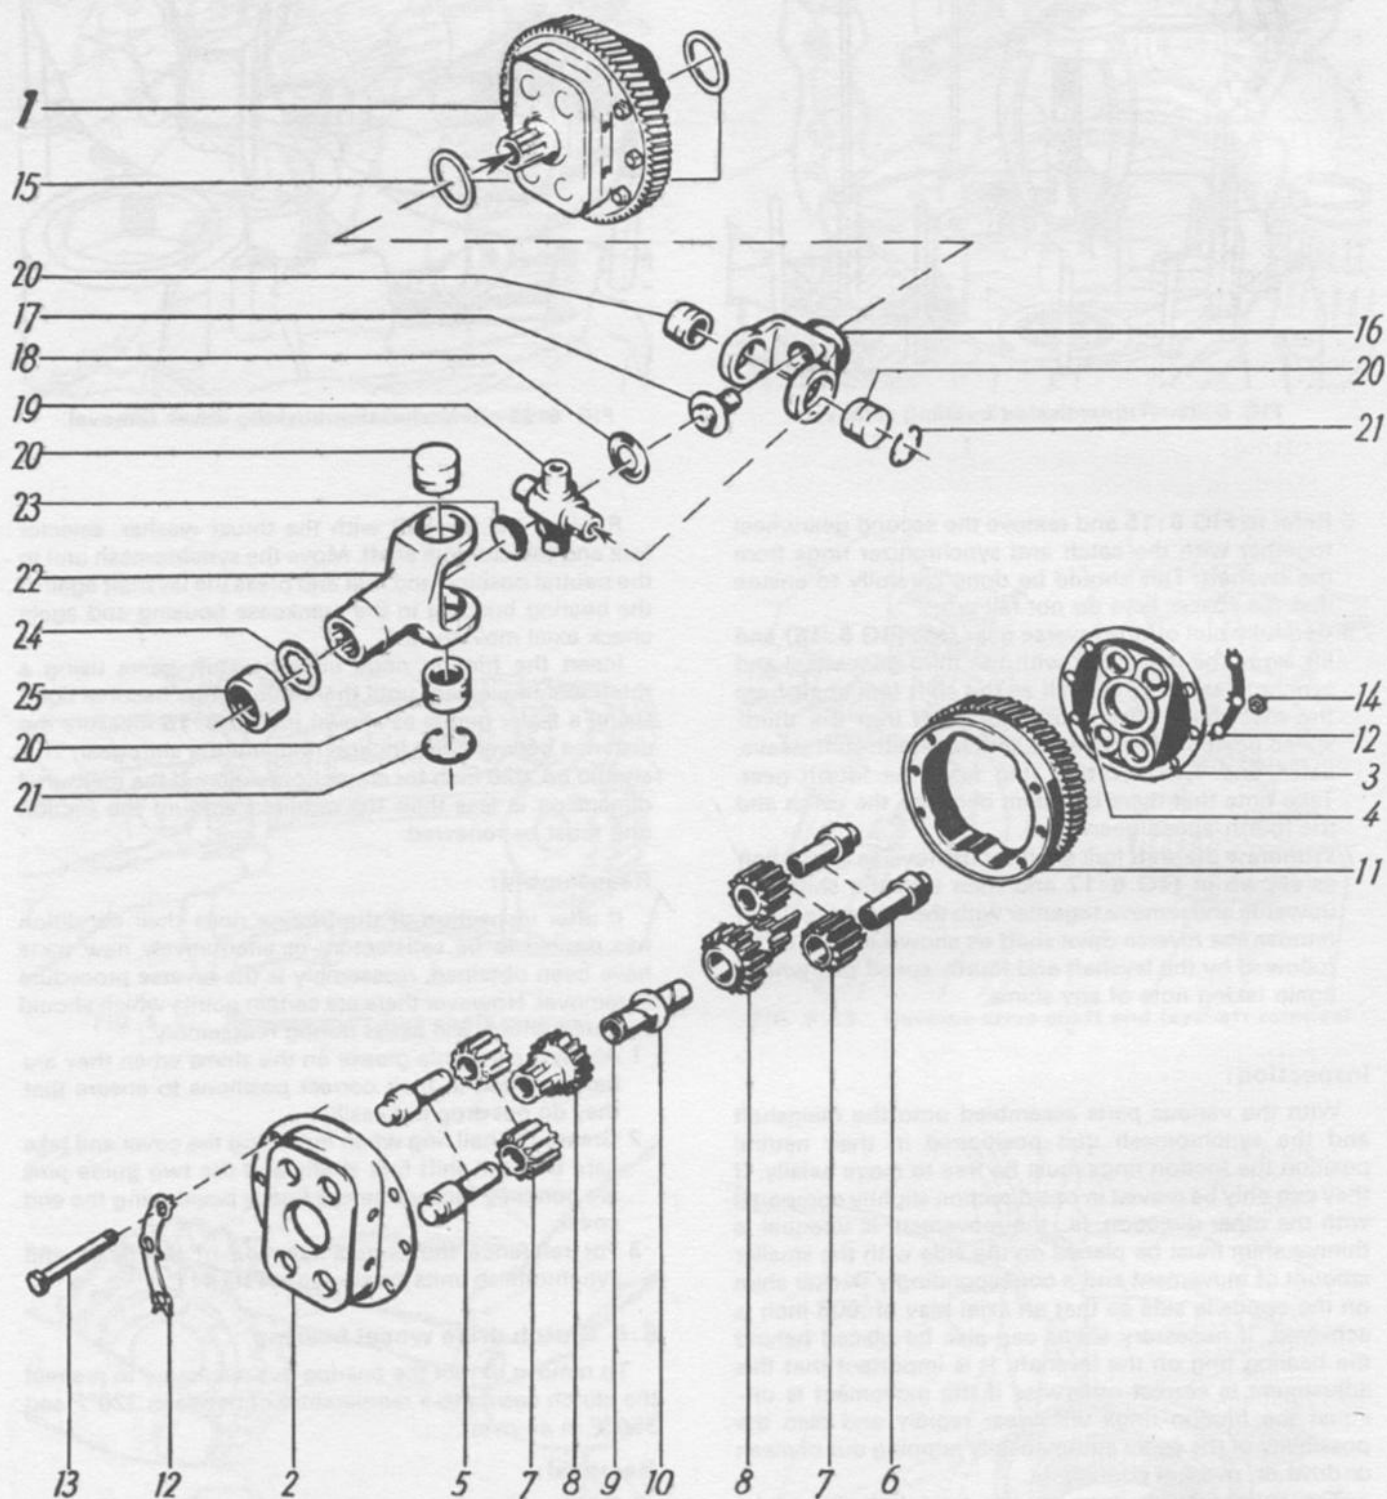

FIG 6:23 Differential unit component parts
- 1 Remove the clutch drive wheel from the casing and then using a pair of circlip pliers remove the ballrace retaining circlip as shown in FIG 6:20.
Key to Fig 6:23 1 Differential 2 Housing half 3 Housing cover 4 Cylindrical peg 5 Pin 6 Pin 7 Planetary wheel